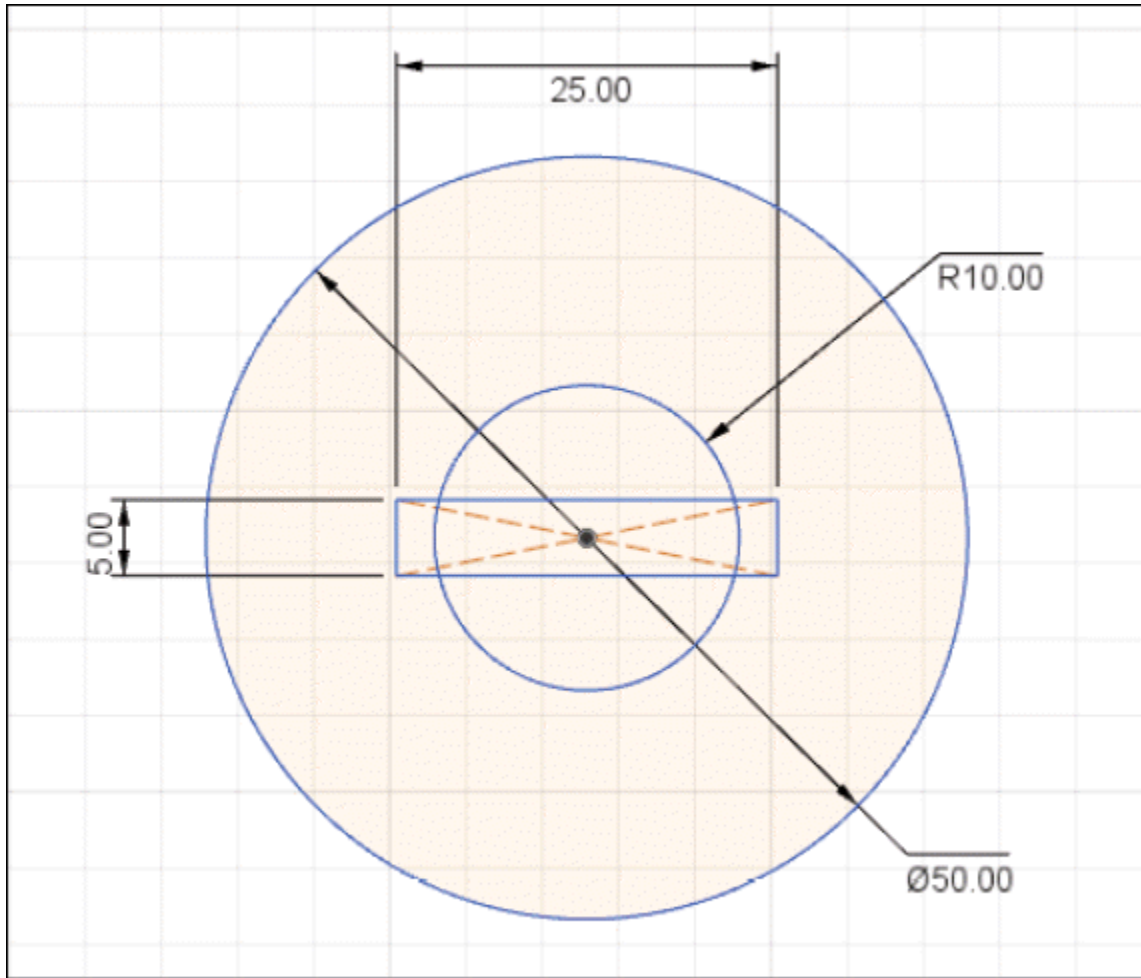

Figure-4. Sketch after creating circle and rectangle
- Click at **Origin** as center point for rectangle and enter **5** as width & **25** as length in floating window to create a rectangle; refer to Figure-4.